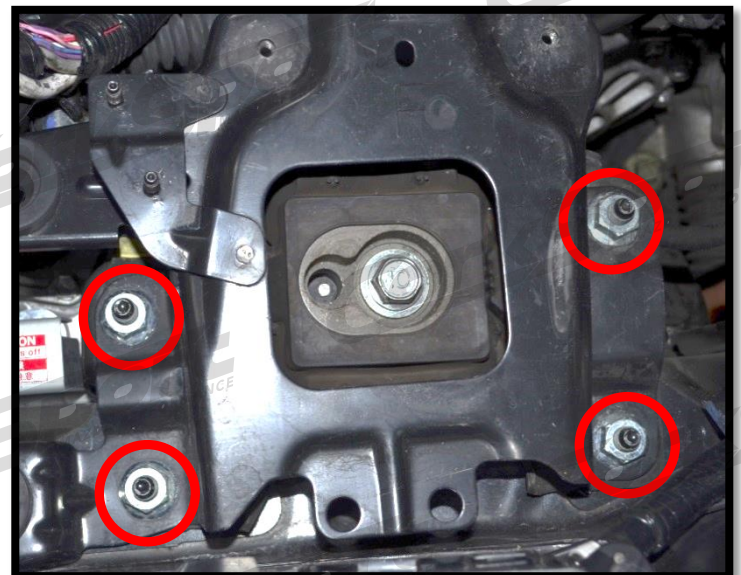

Figure 5d
d) Install the four 17mm bolts found under the battery box. Shown circled in Figure 5d. Torque to 33-44ft.lbs.